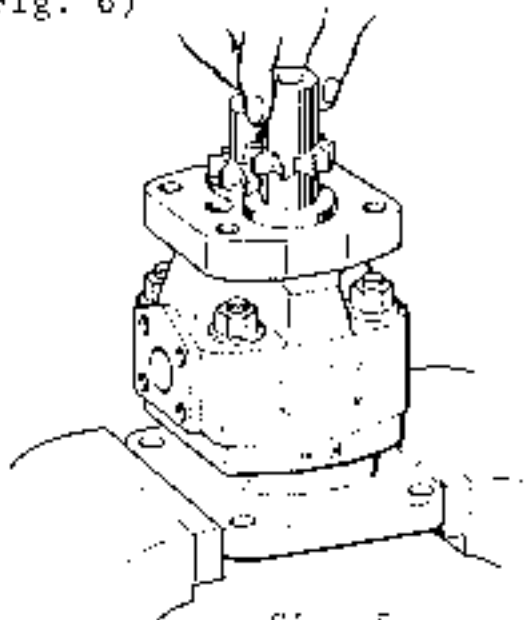

Fig. 5
6. Remove drive gear ㊪ and idle gear ㊫ . (Fig. 5)